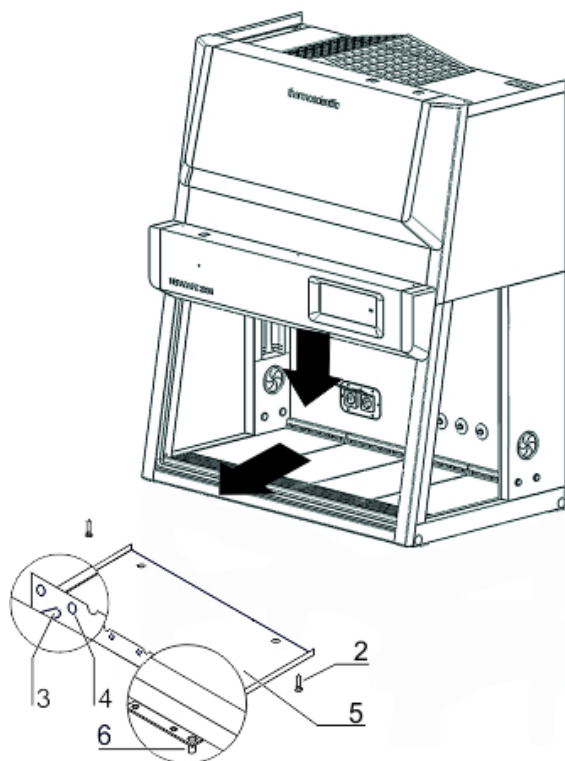

Figure 27. Perforated panel (filter protection) installation/removal
1. **Figure 27:** Remove the two screws [2], tilt the perforated panel [5] slightly, disengage its front end from the locating pins [3] and remove the panel.